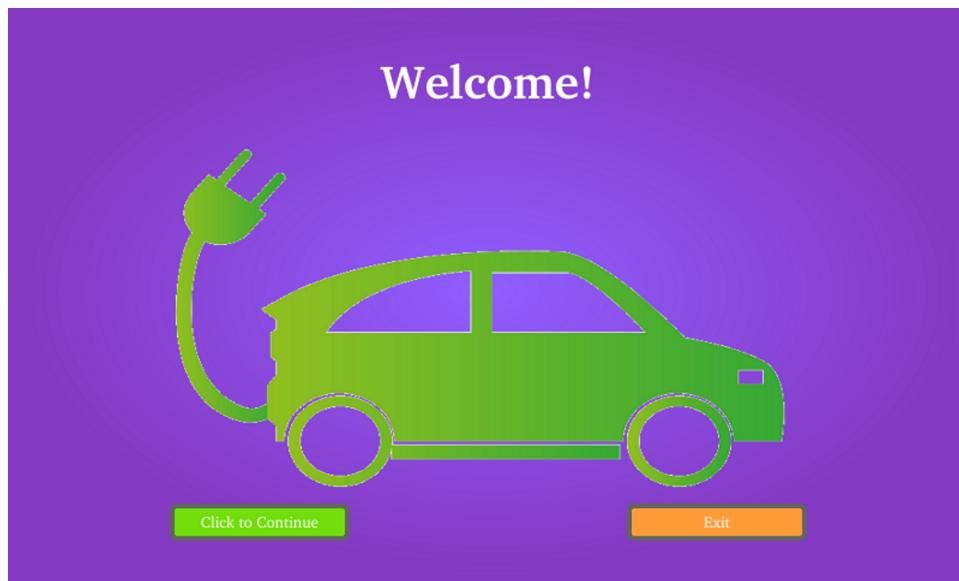
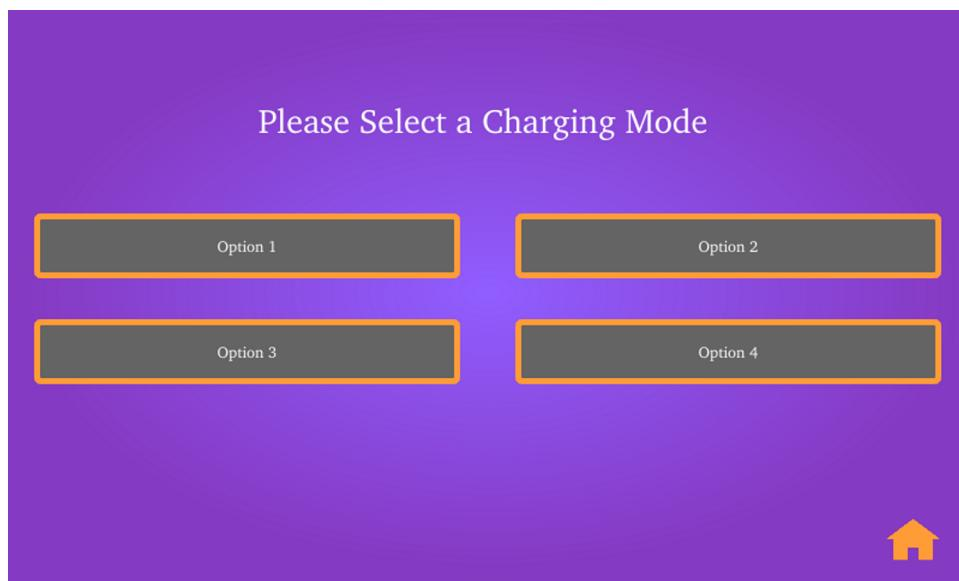

図 9. EVSE HMI Demonstration GUI—Welcome Screen (Page One)
図 10. EVSE HMI Demonstration GUI—Charging Mode Screen (Page Two)
4. The EVSE HMI demonstration GUI launches and the *Welcome* screen shows (see 図 9).
5. The *Click to Continue* button in 図 9 leads to the charging mode screen shown in 図 10.
- The home icon in the bottom-right corner directs the user back to the *Welcome* screen in 図 9.
- The home icon in the bottom-right corner leads to the *Welcome* screen in 図 9.
- The *End Charge* button directs the user back to the *Welcome* screen in 図 9.